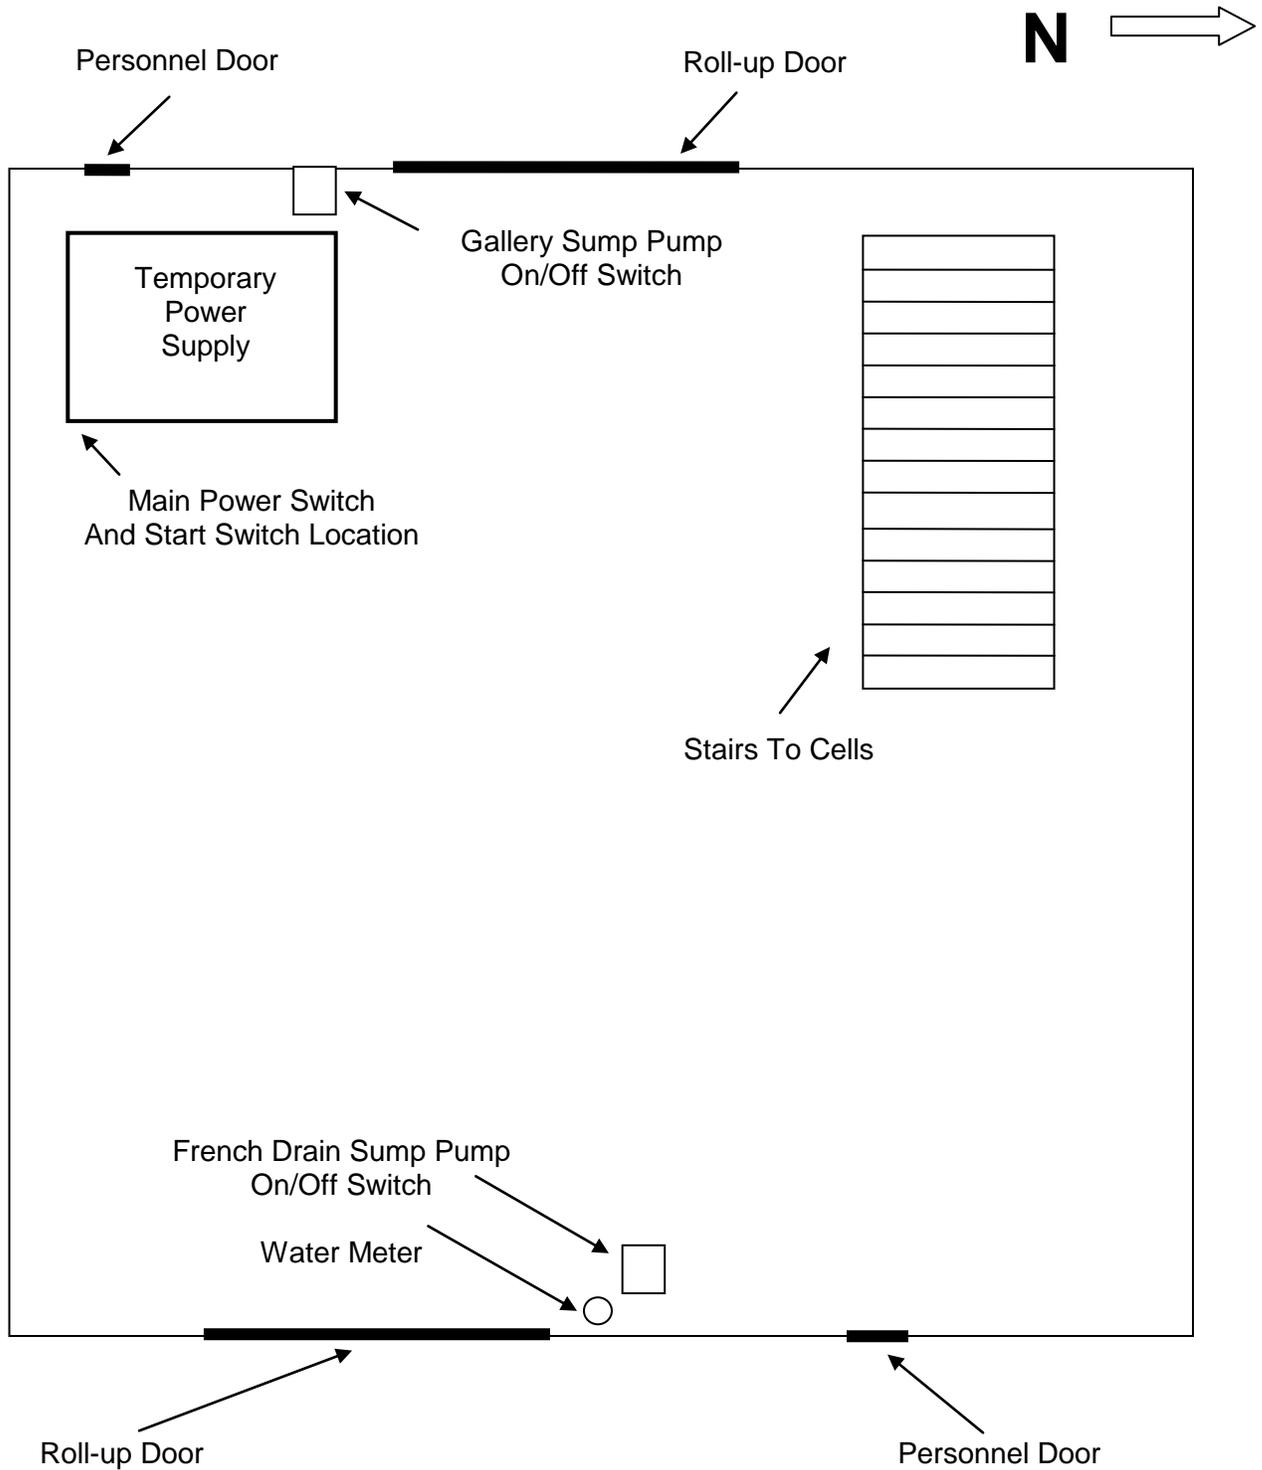

Figure 1
Building 4024 utilizes two manually controlled sump pumps (Figure 1) to manage groundwater entering below grade areas of the building, and the French drain system. Pumps are operated weekly, and more frequently following significant rainfall. Occasionally, groundwater may enter the test cells through floor penetrations requiring manual transfer to the gallery sump for removal. Water volume pumped from each sump is metered and recorded in the 4024 groundwater management notebook. Water from the sumps is sampled for on-site gamma spectroscopy analysis on a quarterly basis and results reported to management.
2. Enter the facility and turn on portable lights by closing the main power switch, located on the temporary power supply at the southwest corner of the high bay (Figure 1), and pressing the start button.
5. Operate both sump pumps (Figure 1) until all water has been removed.